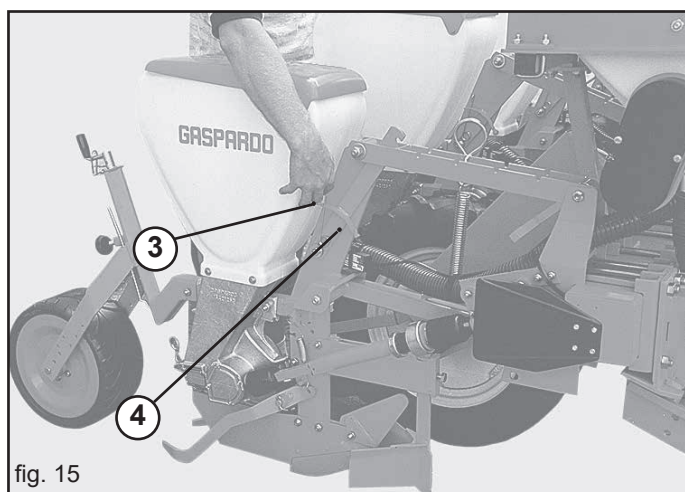

fig. 15
- Hook the spring the position 3 (Fig. 15)
- Hook the spring the position 4 (Fig. 15);